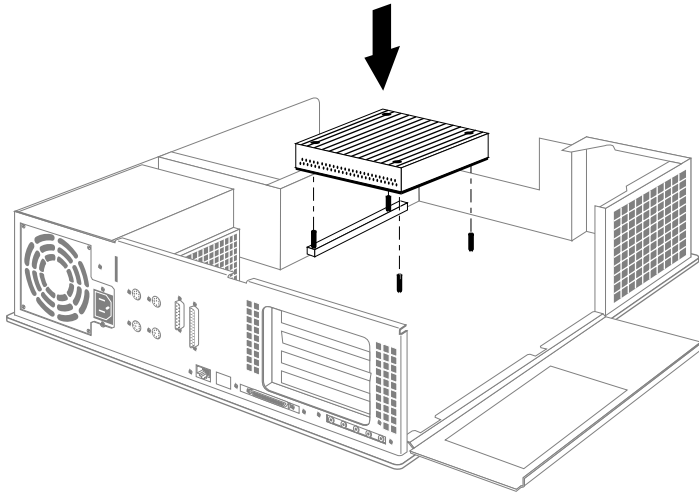

Figure 8-41 Installing the R4400 150 MHz CPU Module in the Indigo² Chassis
11. Replace the CPU module. Figure 8-41 shows the R4400 150 MHz CPU module. Your CPU module may look different, but is installed in the same location.
- Position the module so that the connector on the bottom of the module aligns with the connector on the board, as shown in Figure 8-41.